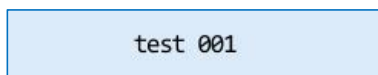

Figure 3.2a Experiment File Interface - File Name
- File name:** display the name of the file selected by the user, as shown in Figure 3.2a.